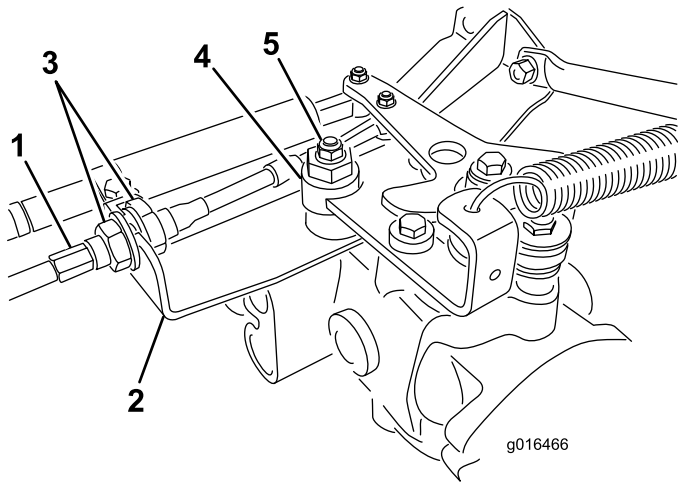

Figure 46
- A. Loosen both jam nuts securing the traction-control cable to the bulkhead on the hydrostat (Figure 46). Ensure that the jam
Note: Loosen the nut securing the eccentric to the top of the hydrostat (Figure 46).
- E. When the wheel stops rotating, tighten the nut locking the eccentric and the adjustment (Figure 46).
- G. From each side of the bulkhead, tighten the locknuts evenly, securing the traction cable to the bulkhead (Figure 46). Do not twist the cable.